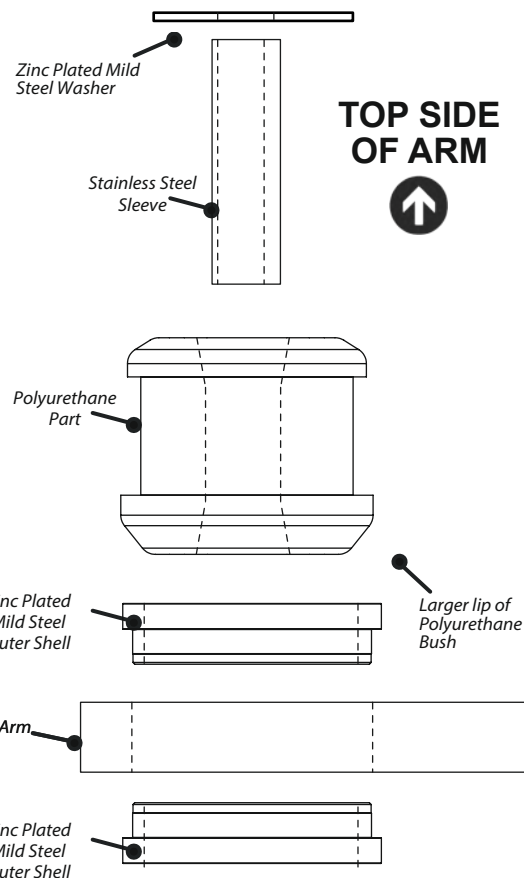

Figure 1
3. Press in the two zinc plated mild steel outer shells into the bore of the arm on either side so the top lip sits on top of the arm, as shown in Figure 1.
4. Push the polyurethane bush into the tapered bore with the smallest lip of the bush sitting on the top side of the arm, as shown in Figure 1.